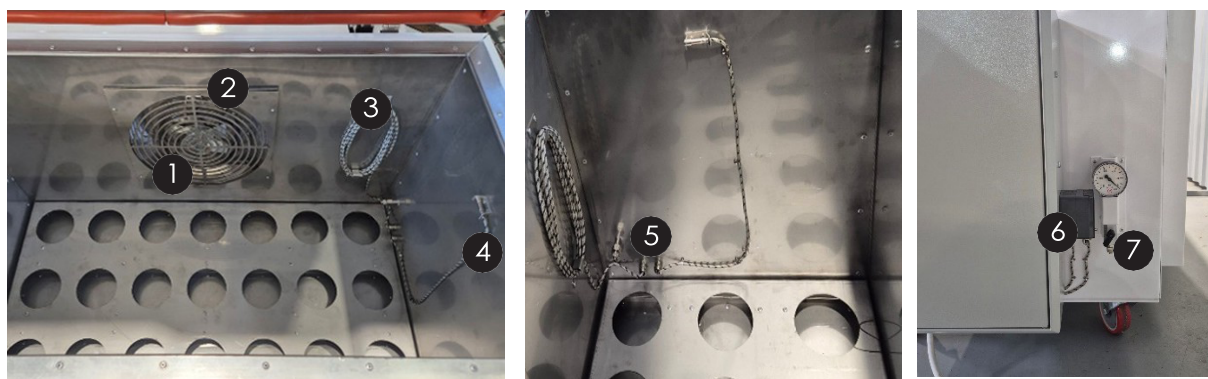

Figure 15. View of Heating Elements
For heating, the oven is equipped with one or two tubular electric heaters with fans (depending on the Polymerization Oven model) (Fig. 15, item 1), which evenly distribute hot air. The oven is also equipped with a mold control thermocouple (Fig. 15, item 3), an oven control thermocouple (Fig. 15, item 4), and a thermostat (Fig. 15, item 2).
The Polymerization Oven is equipped with one or two ports (depending on the oven model) and a vacuum gauge for connecting a vacuum line (Fig. 15, item 7). An 8/6 tube is used and connects to a Camozzi 1510 8/6-1/4 fitting. Camozzi fittings are screwed onto a steel tube with a G1/4 thread. Alternative fittings may also be used.
A 220 V socket is provided for powering the vacuum pump, featuring an automatic power shut-off function at the end of the programmed heating cycle (Figure 15, item 6).